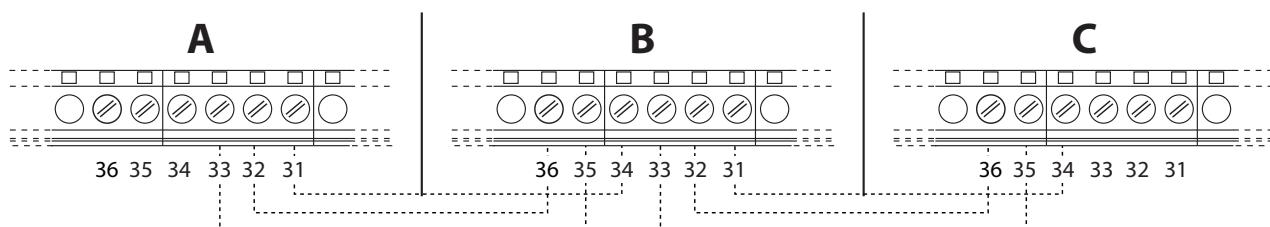

fig. 56- Cascade connection
1. Connect the modules as shown in fig. 56 (**example with 3 modules**)
If this does not occur, disconnect the power and check the wiring in fig. 56..